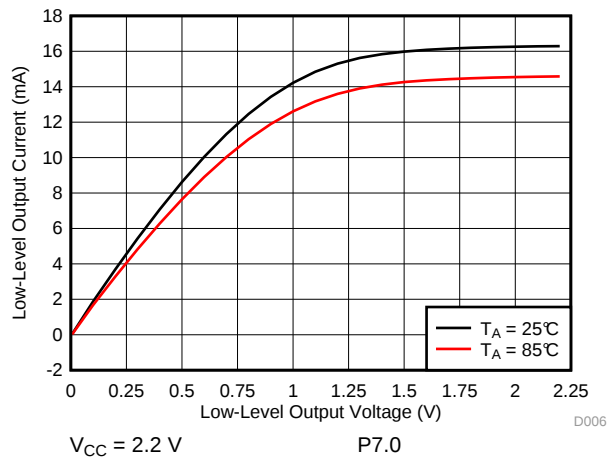
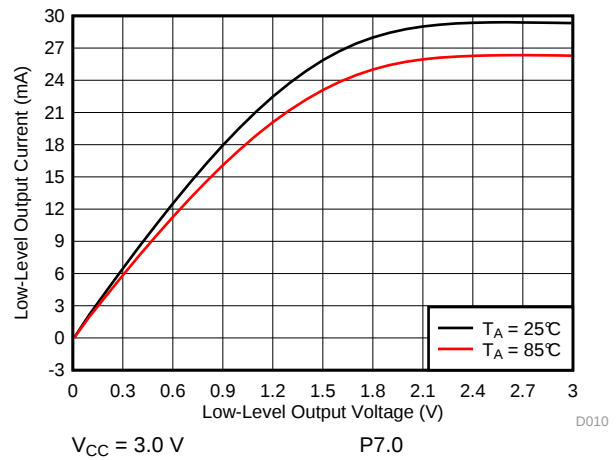

Figure 5-19. Low-Level Output Voltage vs Low-Level Output Current
Figure 5-20. Low-Level Output Voltage vs Low-Level Output Current
| V OLLow-level output voltage (see Figure 5-19 and Figure 5-20)          | I (OLmax) = 1 mA (1)                                           | 2.2 V           | V SS        | V SS + 0.25 | V    |